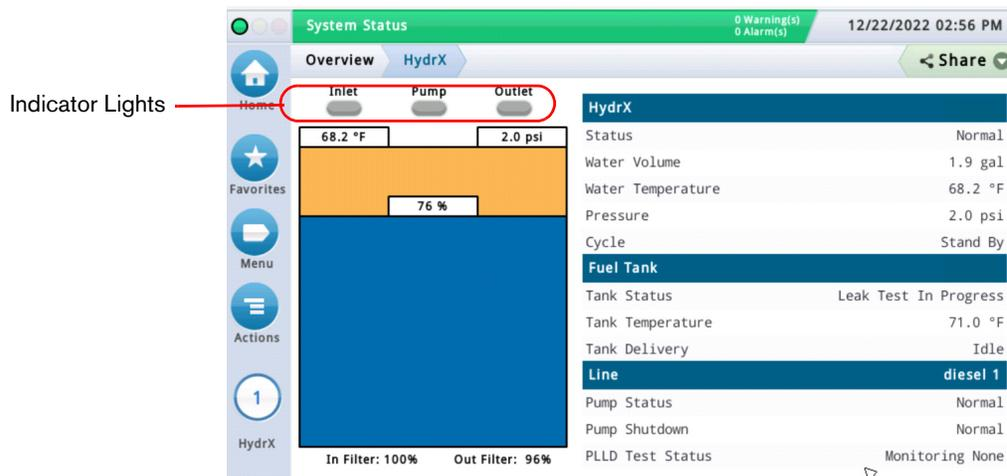

Figure 17. HydrX Overview Screen
1. Touch **Menu>Overview>HydrX** to open the HydrX Overview Screen (Figure 17).